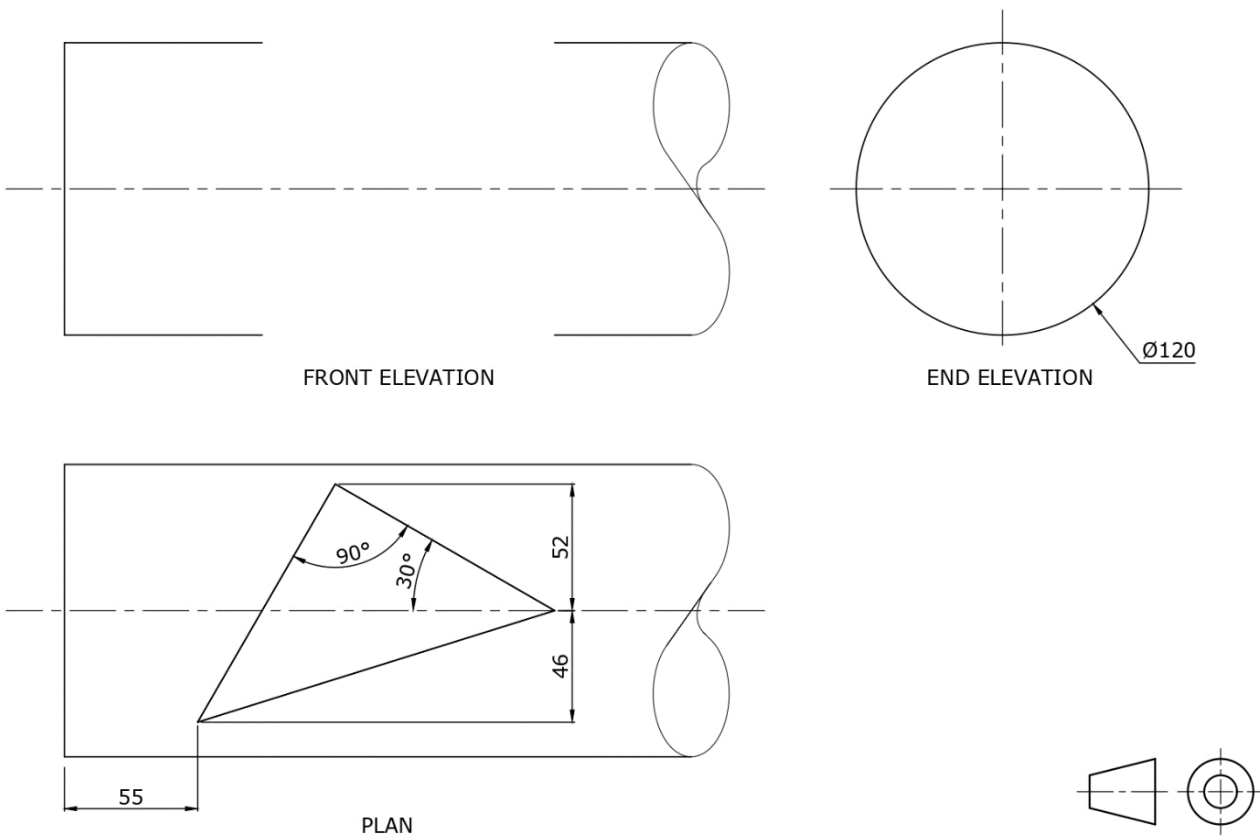

Figure 4b
- a) the **THREE** given views shown in Figure 4b; (3)
- i. the curve of intersection; (7)
- ii. hidden details. (3)